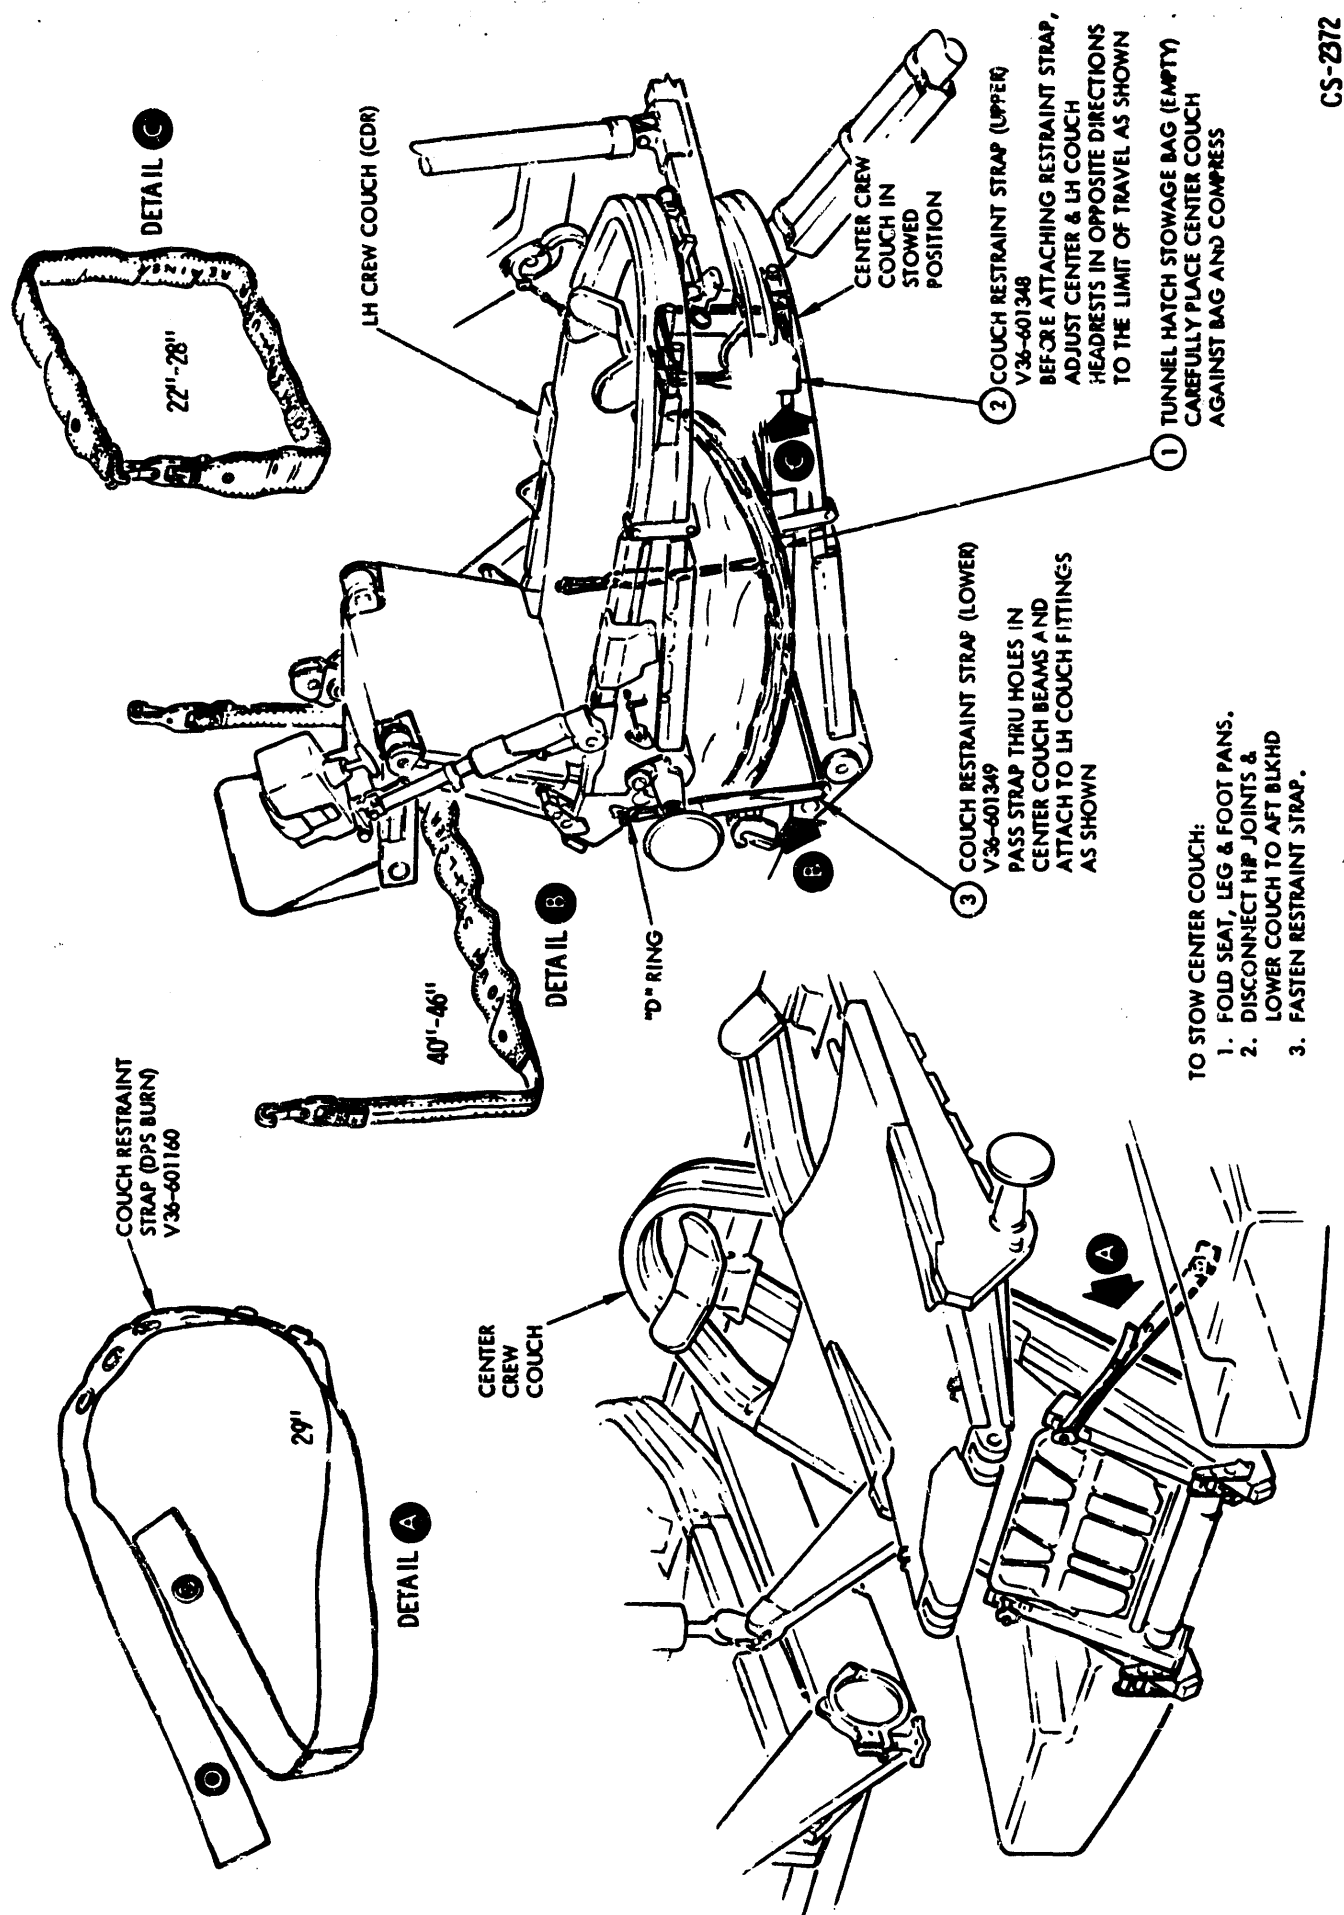

Figure 2.12-13. Center Couch Restraint Straps
Center Couch DPS Burn Straps (Figure 2.12-13). The center couch has to be stowed for a LM DPS burn and EVA. For a LM DPS burn, the seat and legpan is lowered to the aft bulkhead while the body support stays hinged at the headbeam. The folded seat-legpan must be restrained to the aft bulkhead by the DPS burn strap. The couch DPS burn strap is 29 inches long, with one snap (stud) at one end and 6 snap sockets at the other end. It attaches to a "D" ring on the A1 stowage locker and around the knee control handle. When not in use, the strap is stowed in a locker.
Center Couch Stow Straps (Figure 2.12-13). During the preparation for EVA, the center couch is removed from its center position and stowed under the left couch. The center couch is restrained to left couch by the two center couch stow straps.
2.12.3.2.9 Tunnel Hatch Stow Bag (Figure 2.12-13).